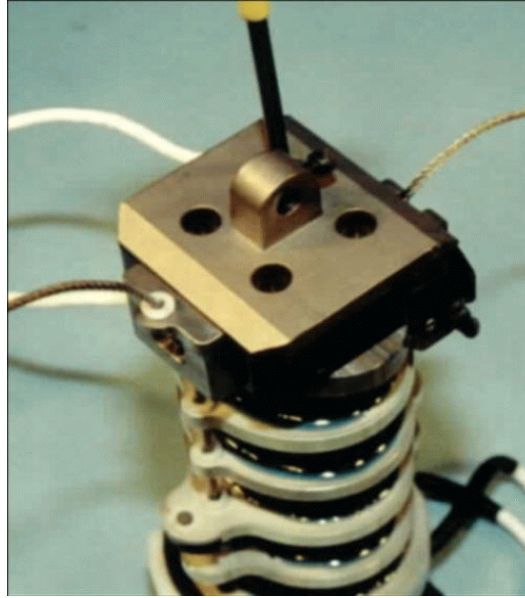

Figure 5.10- Upper load cell attachment
10. Install the Upper Neck Load Cell (T1NKM310) to the top plate of the Bonded Neck Assembly (T1NKM100) using four 1/4-20 x 5/8" SHCS {3/16} and four 1/4" split lock washers. Check to be sure that the Occipital Condyle Set Screw (T1NKM027) is in the condyle bolt hole on the Upper Neck Load Cell. **Figure 5.10** shows the attachment of the upper neck load cell.